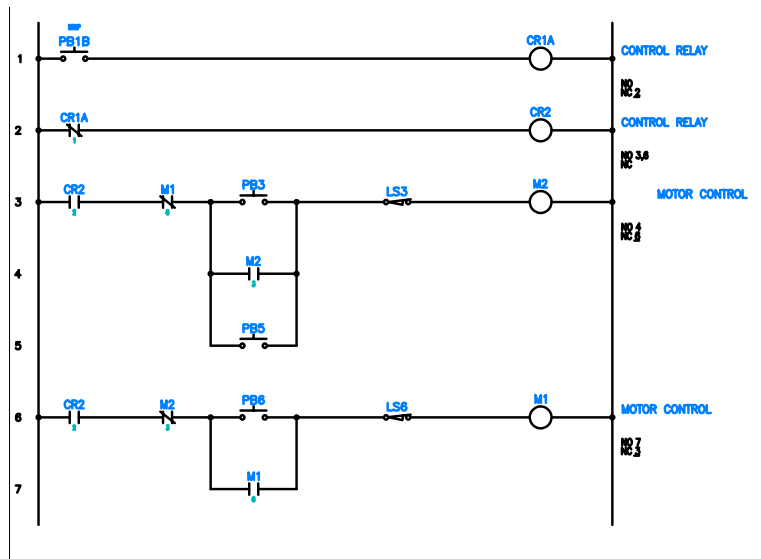

Figure 6-54 The trimmed wires and the aligned components
- Repeat step 1 and then select PB3 from rung 3; you are prompted to select objects. Next, select M2 placed on rung 4, PB5, PB6, and M1 placed on rung 7 from the drawing and then press ENTER; the selected components are aligned. Figure 6-54 shows the aligned components.